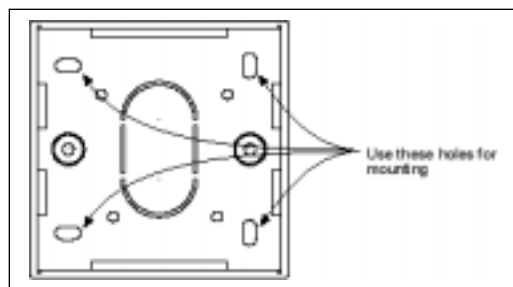

Figure 7-7 Junction Box Wall Mount (Face Plate and PCB Removed)
4. On the Wall Mount portion of the Wall Box, use a flat head screwdriver, or a pair of thin-nosed pliers, to break out the pre-scored section of casing wall along the bottom edge of the junction box (see Figure 7-7). This is where later on you will route the interconnect cable.